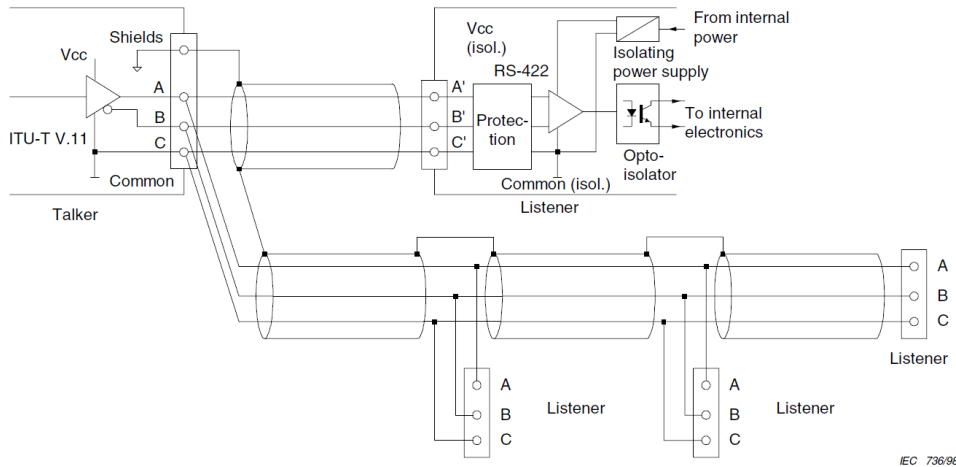

Figure 12: IEC 61162-2 Circuits
- One talker (Tx side, commonly a sensor such as GPS) may be connected to one or more listeners (Rx side, e.g. displays or computer systems such as ECDIS). The circuit looks as shown in *Figure 12: IEC 61162-2 Circuits* on page 17.